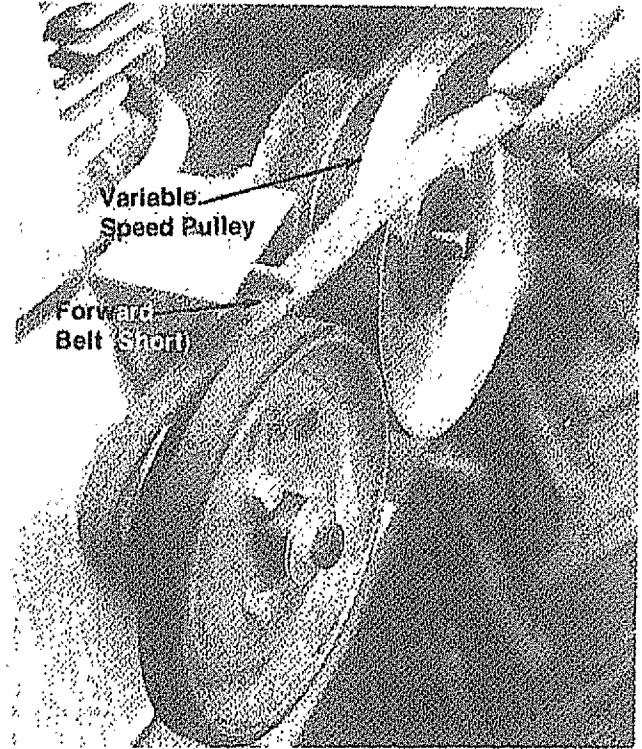

FIGURE 33.
3. Slip the belt off variable speed pulley, remove and replace with new belt. See figure 33.